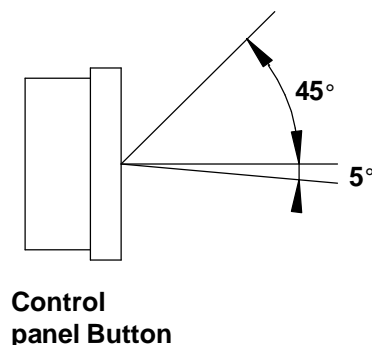

Figure 2
- The control panel's LCD's are designed to be clearly visible within the angles shown in Figure 2. Mount the control unit so that the visual angle is within this range.